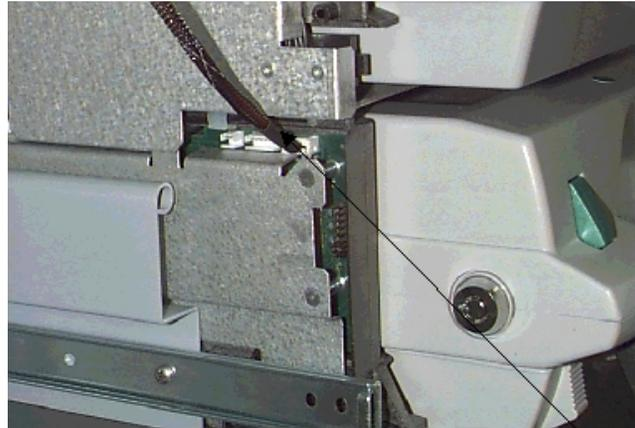

Figure 4.
- 7.) Refer to Figure 4. Connect the data cable (9600-0057) to the connector on the front left side of the dispenser mechanism. Be sure to use the forward most connector as shown. The plug is keyed to ensure proper installation.